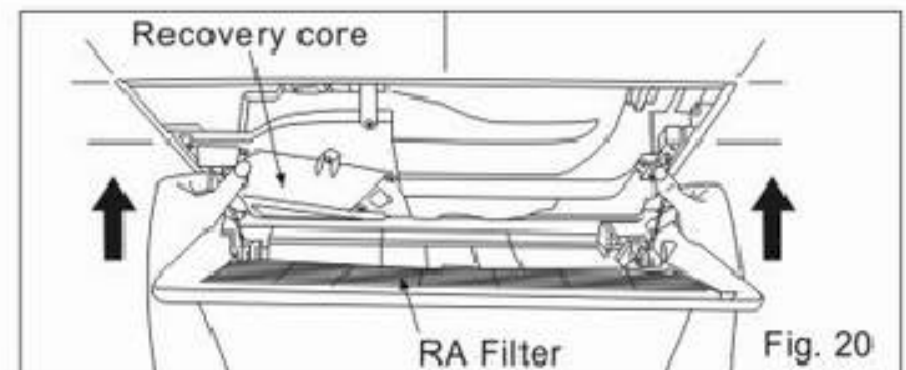

Fig. 20
8. Turn the grille in the appropriate direction to fit on the air supply side. Insert the mounting springs into the slots, as shown, and mount the grille to the fan body. When installing the grille, keep the recovery core to the left and keep the RA filter in front of your position. (Fig. 20)